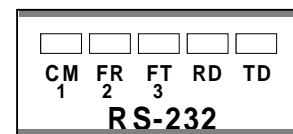

Figure 13 - RS-232 LED Port indicators
- During this time, one or all of the RS-232 numbered LEDs (see Figure 13) will light. If one LED lights, it denotes the port to which the subsequent display applies. If all numbered LEDs light, it denotes that the normal 3-port display mode is active.